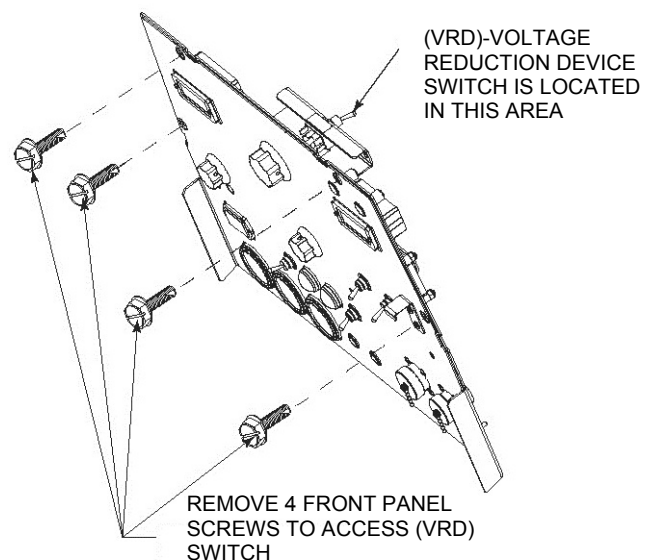

Figure 1
- Lower the control panel by removing 4 front panel screws. (Figure 1)
- Place the VRD switch in the "On" or "Off" position. (Figure 1)